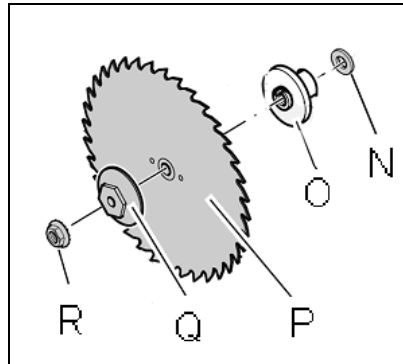

Fig 16
Remove the arbor nut (R, Fig 16 and flange (Q).